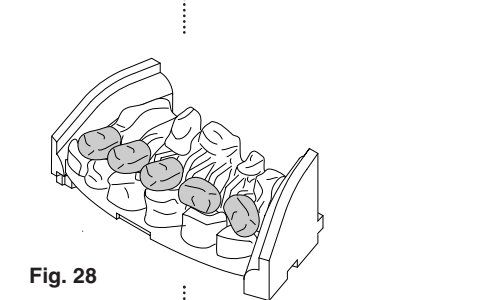

Fig. 28: Diagram showing the arrangement of coals on the burner bracket lip.
5. Place 5 of the loose coals into the location recesses of the front coal, (flat face downward). The 3 centre coals should rest against the corresponding rear coal spacer lugs. Orientation of the coals should be as shown in order to achieve the desired flame picture (Fig. 28).